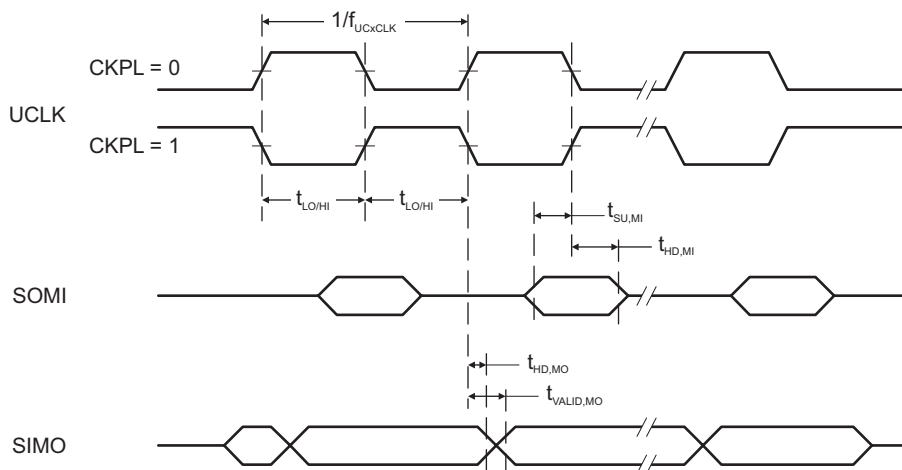
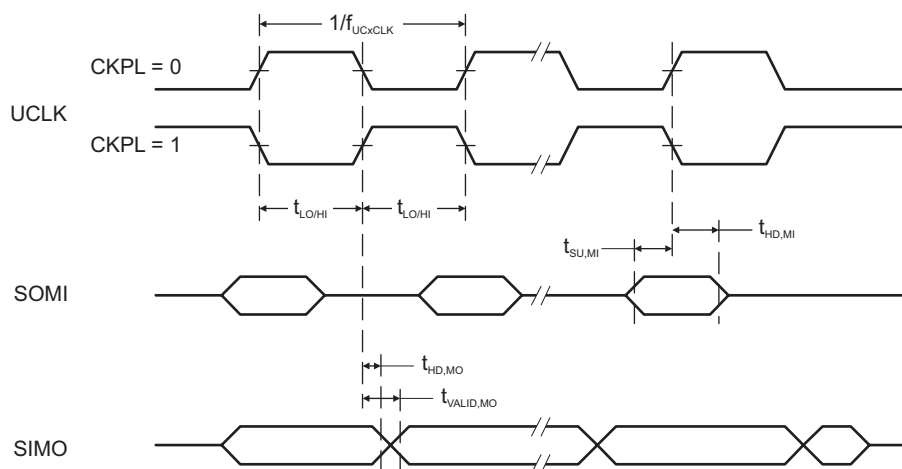

Figure 5-7. SPI Master Mode, CKPH = 0
Figure 5-8. SPI Master Mode, CKPH = 1
(see Figure 5-7 and Figure 5-8)
- (2) Specifies the time to drive the next valid data to the SIMO output after the output changing UCLK clock edge. See the timing diagrams in Figure 5-7 and Figure 5-8.
- (3) Specifies how long data on the SIMO output is valid after the output changing UCLK clock edge. Negative values indicate that the data on the SIMO output can become invalid before the output changing clock edge observed on UCLK. See the timing diagrams in Figure 5-7 and Figure 5-8.